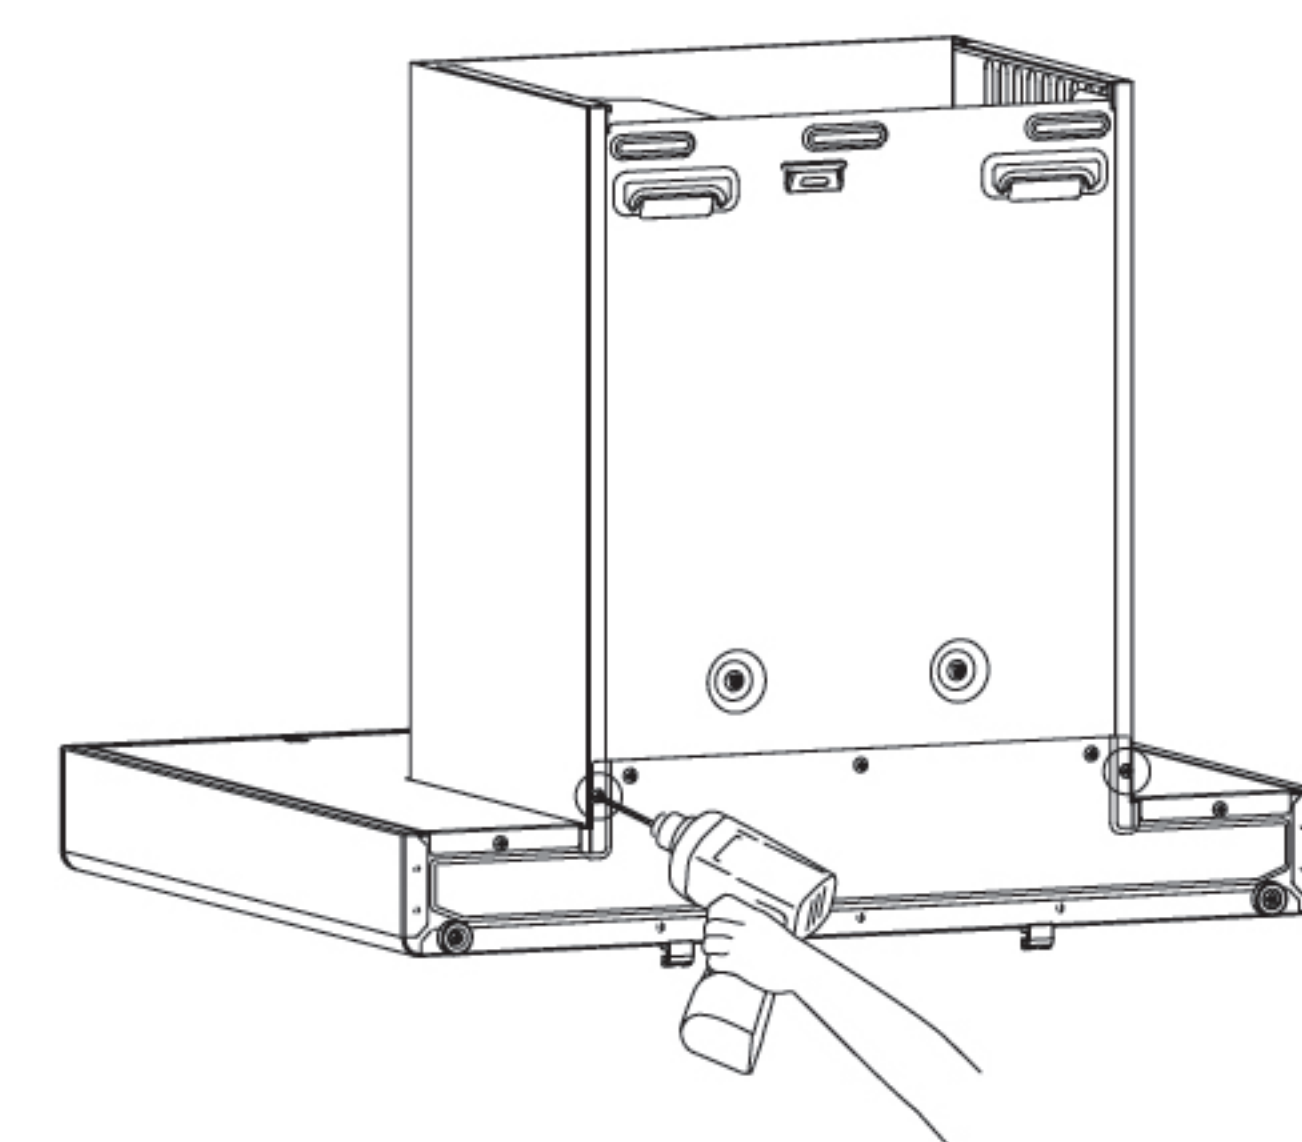

Fig.8
2. Remove the fan cover and decorative hood (only for EMG9008-C): remove the 2 screws that fix the fan cover behind the main body with a screwdriver(see Fig.8), and then grab the fan cover and decorative hood with both hands to take them out upward(see Fig.9);